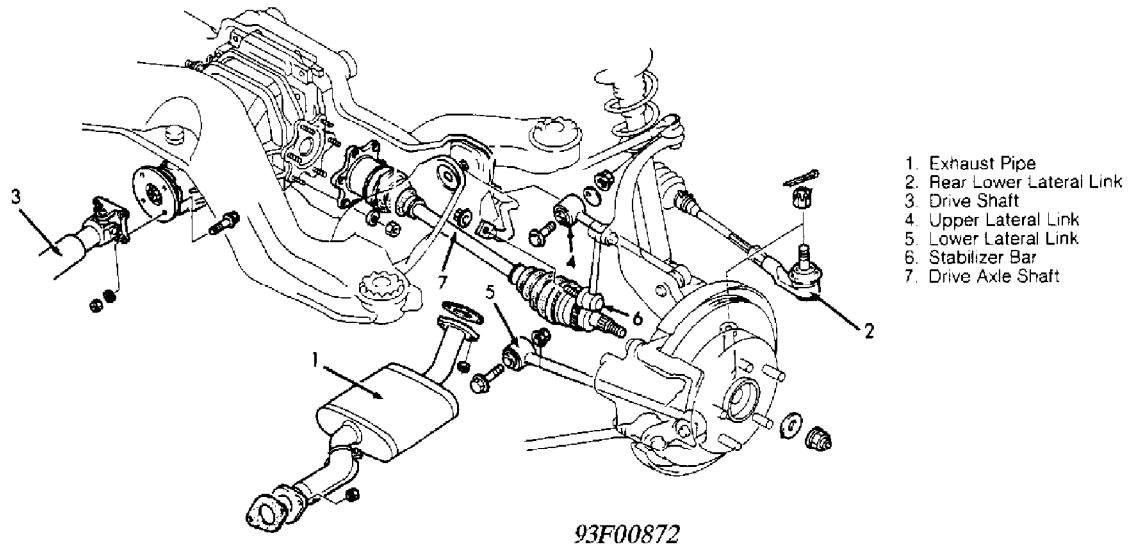

Fig. 1: Removing Rear Drive Axle
2) Remove exhaust pipe. See Fig. 1. Using Ball Joint Puller